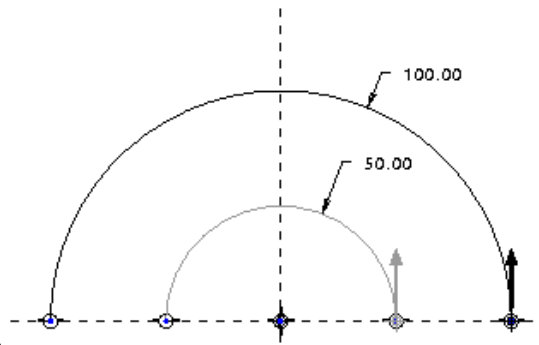

Figure 13-72 Sketch of the second arc
9. Draw the second arc and dimension it as shown in Figure 13-72.